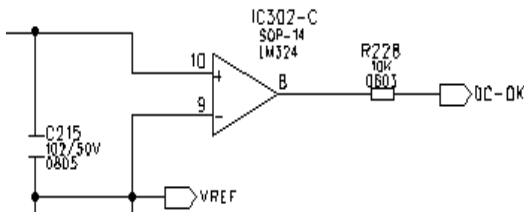
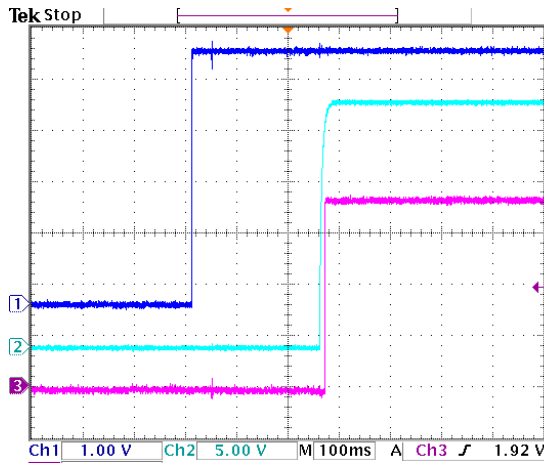

Figure 5. DC-OK circuit
Figure 6. Typical DC output with full load @ 120 V
3. DC-OK – The DC-OK signal provides a logic level high signal when the main 24 V output is normal range. The signal is driven by the 5 V Standby output and has a source impedance of 10 kΩ. The output should typically be buffered in the system interface. (Ref. figure5, figure6, table 3)